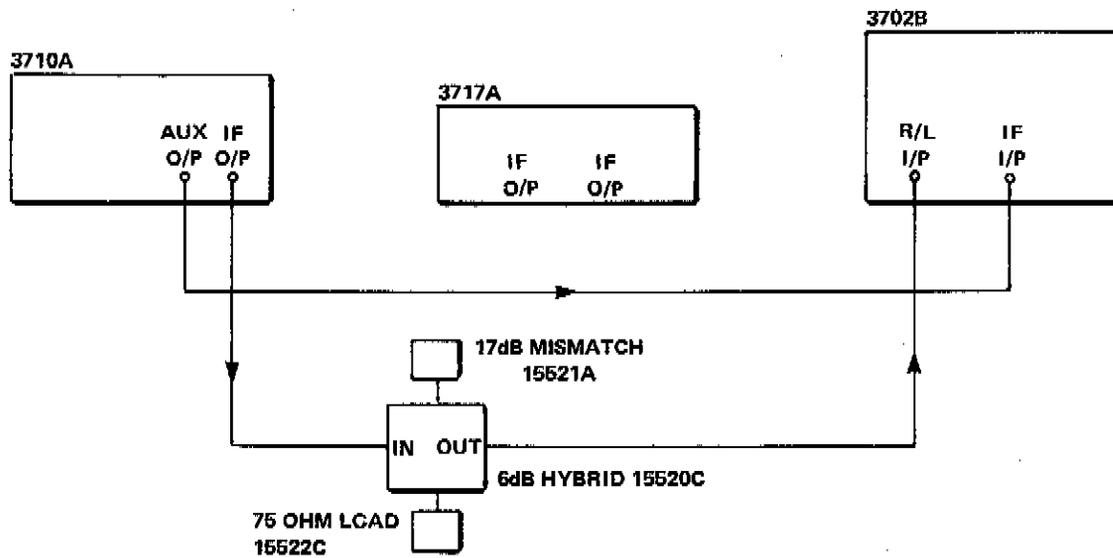

Figure 5-7 Return Loss Setup
1. Connect the equipment as shown in Figure 5-7. Set the controls as follows: